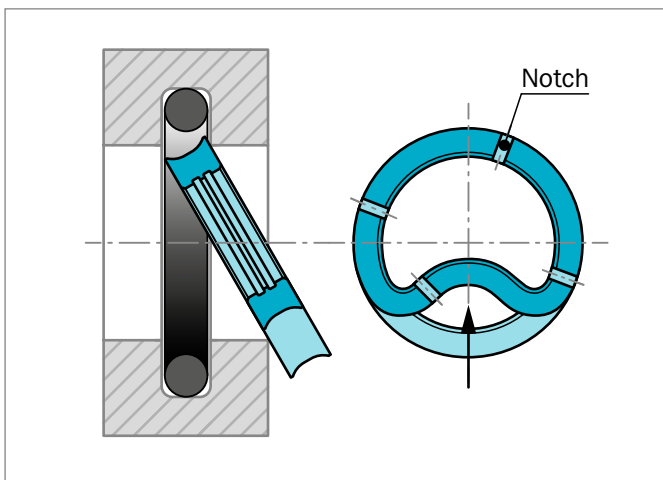

Figure 165: Installation of shaft Turcon® Roto Glyd Ring® type in closed groove
- Fold the Turcon® seal ring into a kidney shape (see Figure 165).
- 2) The Turcon® Roto Glyd Ring® V seal ring, with Quad-Ring® installed, is compressed into a kidney-shape and placed in the groove, see Figure 165.